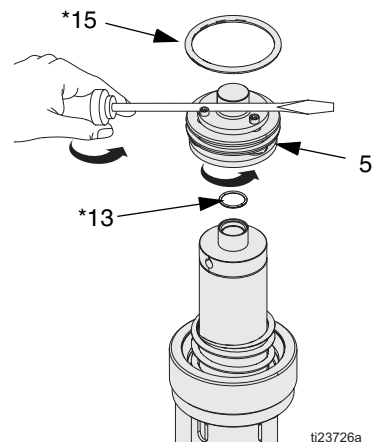

FIG. 12 Series B Air Valve
3. *Series B (and later Air Motors):* Unscrew air valve (5). If necessary to assist turning, wedge a screwdriver blade between the screw heads and the hex cap of the air valve (5). Inspect o-rings (13\* and 15\*) for damage and replace if necessary. Ensure o-ring (13\*) is correctly positioned and not pinched. See FIG. 12.
**NOTE: See Air Motor Repair, step 3 and step 4 (FIG. 12) for special notes on reassembly.**